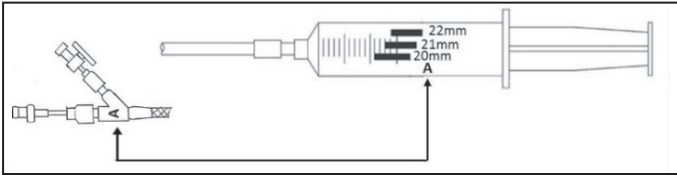

Figure 4
- B. Ensure that the connector of the catheter bears the same alphabet letter as that printed on the **Syringe** (See **Figure 4**).